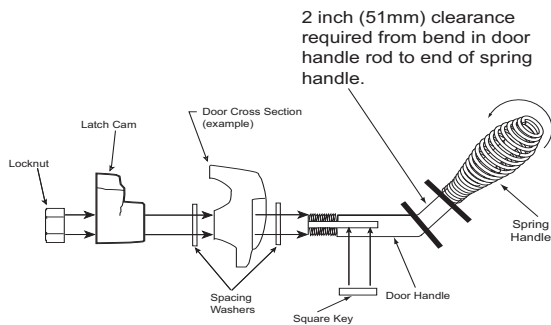

Figure 25.1
3. Install second washer(s) as shown in **Figure 25.1**.
7. Install spring handle turning in a counter-clockwise motion to **required** 2 inch (51mm) clearance location on door handle rod (**Figure 25.1**).